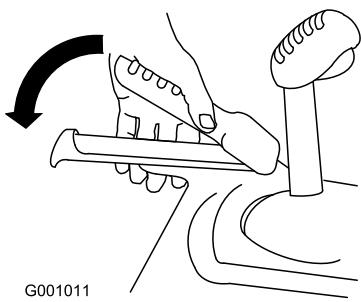

Figure 21
- Squeeze the left hand (traction) lever to the hand-grip (Figure 21).